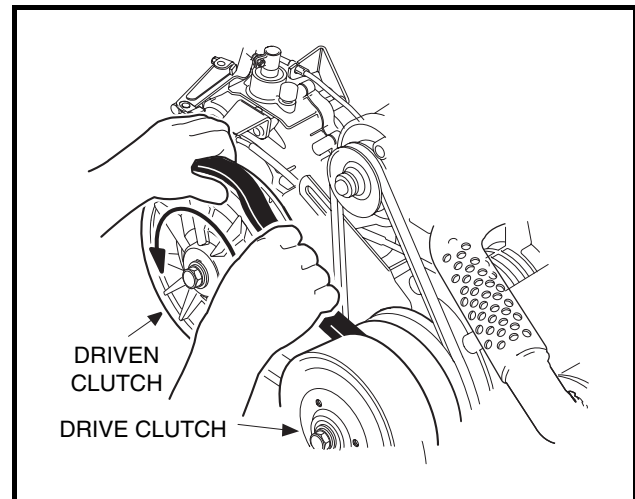

Figure 18-29 Remove Drive Belt
- 16.1. Grasp belt midway between drive and driven clutch and pull up on belt to force the driven clutch sheaves apart. Roll the belt counterclockwise while pulling it off driven clutch (**Figure 18-29, Page 18-12**).